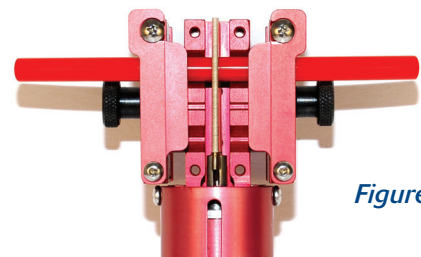

Figure 2
- While compressing the belt clamp springs (see Figure 1), place both belt ends into belt clamp and tighten belt clamp lock screws. **Note: Make sure there are no twists in the belt.** Make sure the belt ends are flush against the heater blade (see Figure 2).